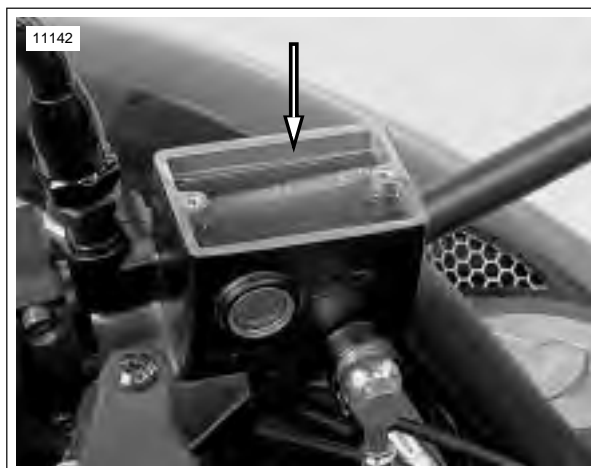

Figure 1-10. Reservoir Fluid Level Indicator
- a. See Figure 1-10. With motorcycle upright, add **D.O.T. 4 BRAKE FLUID** to master cylinder reservoir until the level matches level indicator in reservoir.